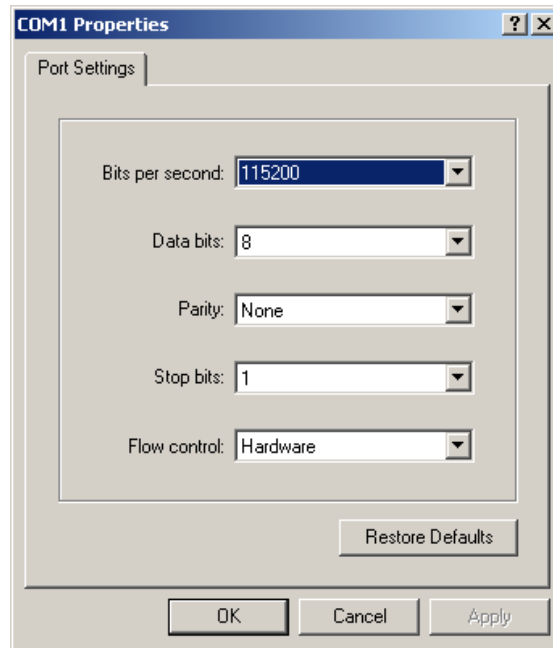

Figure 2 COM Port properties settings
4. [] Enter the HyperTerminal COM Port properties listed below in Figure 2 and click OK.